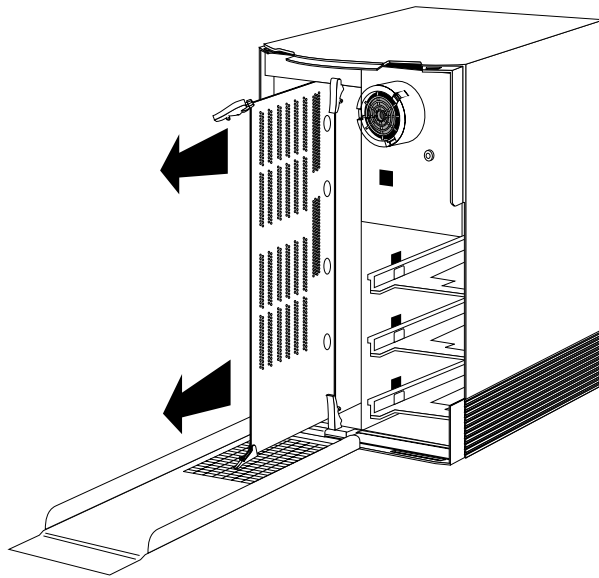

Figure 6-23 Removing the CPU Board From the Indigo Chassis
- Pull the levers toward you to release the board. The board slides out of the chassis as you pull the levers, as shown in Figure 6-23.